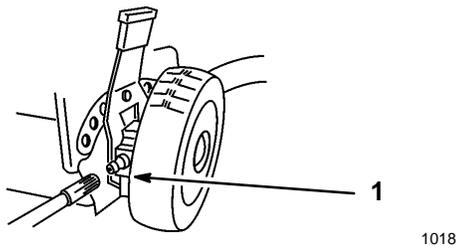

Figure 25
1. Wipe the grease fittings on the rear height-of-cut adjusters (Fig. 25) with a clean rag.